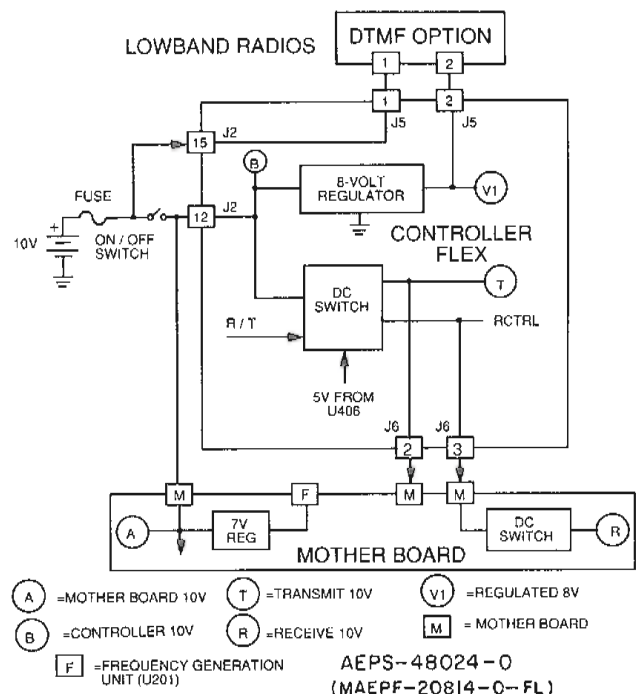

Figure 1. DC Voltage Distribution Block Diagram
a. DC Voltage Distribution (See Figure 1)
Operating power for the radio is derived from a 10-volt battery. This 10 volts (BATT B +), via the PTT/B + Flex, the Frequency Switch Flex, and the Volume Pot Flex, is applied to the ON/OFF switch. When the radio is turned on, the voltage sources required to operate the various stages of the radio are distributed as shown in Figure 1. In the transmit mode (PTT actuated), a logical low on the R/T line enables the DC switch to provide the required 5 Vdc and 10 Vdc to the transmitter circuits.